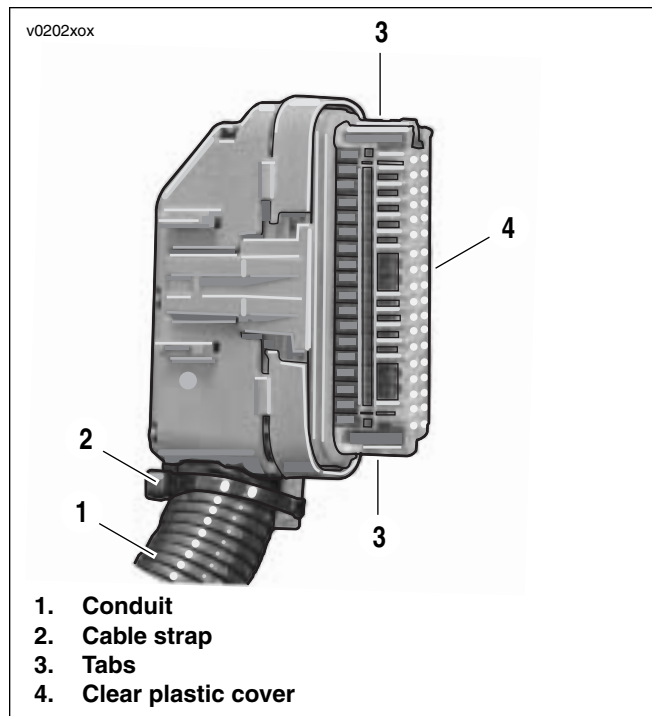
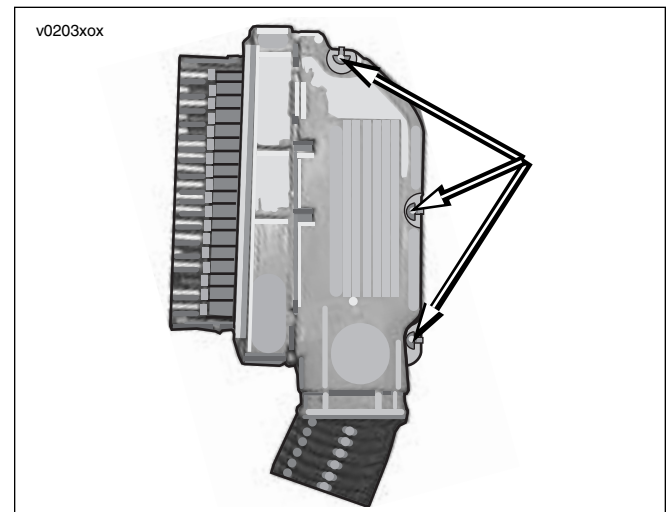

Figure 5-23. ECM Connector
Figure 5-24. Connector Tabs
1. See Figure 5-23. Depress tabs (3) on the sides of connector and remove clear plastic cover (4).
2. Remove cable strap (2).
3. See Figure 5-24. Pry three tabs to separate connector halves.
1. See Figure 5-23. Mate connector halves making sure wires are not pinched and end of wire conduit (1) is inside connector halves.